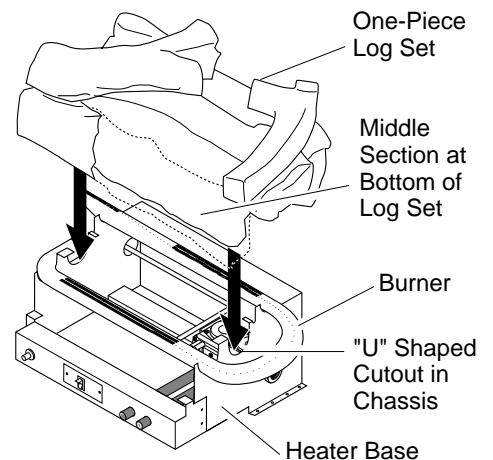
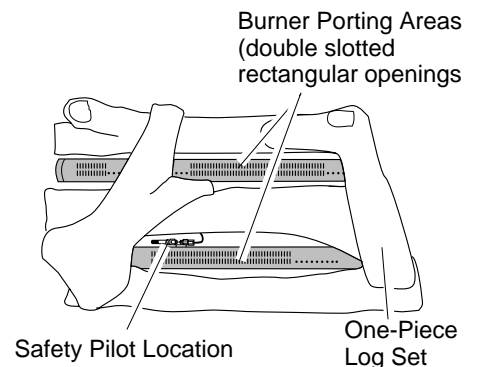

Figure 15 - Installing One-Piece Stove Log Set (Remote-Ready Log Heater Shown)
Figure 16 - Top View of One-Piece Log Set on Gas Log Heater
8. Set one-piece log on heater base as shown in Figure 15. Make sure middle section at bottom of log is seated into "U" shaped cutout in center of heater base. Log will fit securely on base. **IMPORTANT:** Make sure log does not cover any burner ports and does not touch the stove cavity (see Figure 16).
9. Fasten back panel to stove with six (6) M6 x 1.20mm bolts and washers. Make sure product identification label is located on the outside lower left-hand corner. *Note:* Do not overtighten bolts. Porcelain on back panel may crack.